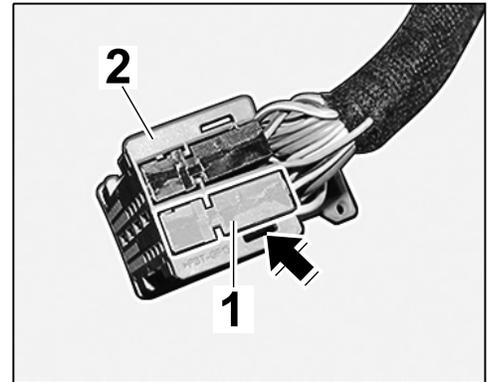

Figure 14
- 2.5.4 Press down the locking mechanism ⇒ *Figure 14 -arrow-* and push the grey plug socket ⇒ *Figure 14 -1-* out of the plug carrier ⇒ *Figure 14 -2-*.